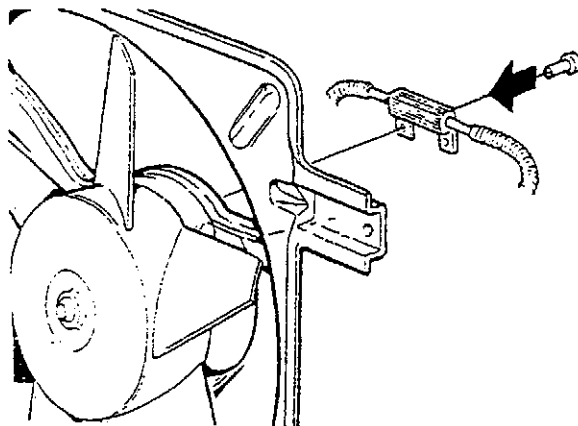

Figure 5. Pop Riveting Fan Resistor to Cowl
4. Attach the fan resistor to the fan cowl by pop riveting it. See Figure 5.